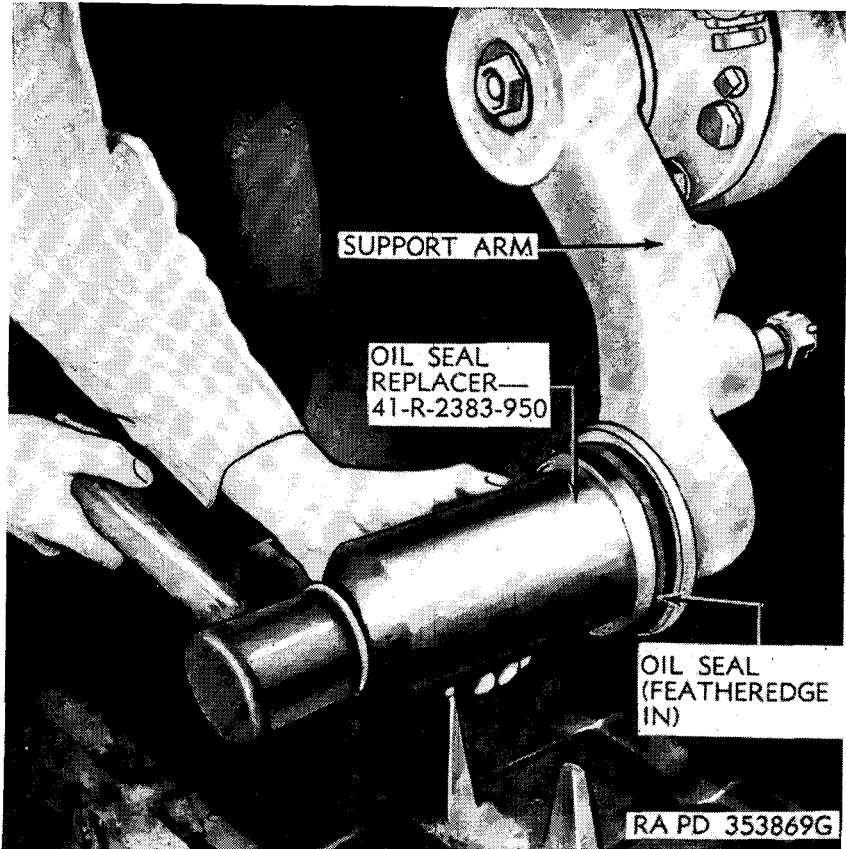

Figure 148. Installing wheel hub seal.
- (1) *Install bearing races.* Drive bearing races into wheel hub, using a brass drift or block of wood and being careful to prevent cocking of race in hub.
- (2) *Install oil seal.* Place a new oil seal over spindle, with featheredge of seal toward arm, and, using oil seal replacer—41-R-2383-950, drive seal into position on bearing spacer (fig. 148). Place new grease retainer in replacer—41-R-2390-450 (fig. 148) and position replacer on hub. Drive retainer into position, taking care to prevent cocking in hub, and remove tool. Check retainer to see that it is properly seated in hub counterbore and that the flange in retainer is true.
- (3) *Install wheel hub.* Pack inner roller bearing thoroughly with the prescribed grease and push on spindle and over shoulder. Lift hub assembly onto spindle and over inner